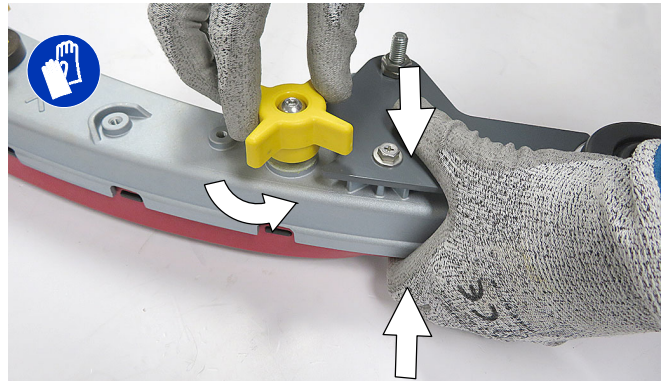

FIG. 136
2. Fully loosen all four star knobs on squeegee assembly. This will separate the spring loaded blade retainer from squeegee frame (Figure 136). To loosen the knobs quickly, squeeze the blade retainer and squeegee frame together.